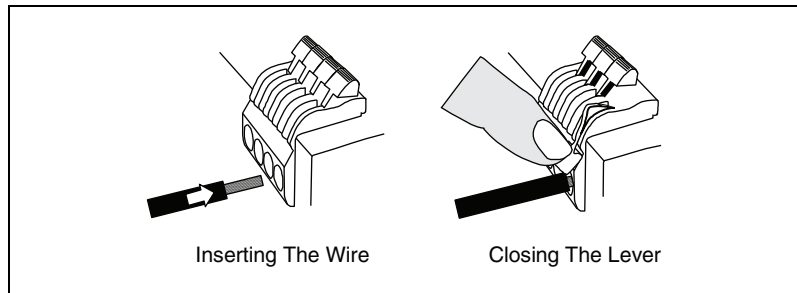

Figure 2-2. Connecting a Wire
3. Ensure that the terminal lever is in an open position as shown in Figure 2-2.
4. Insert the end of the wire into the terminal until the exposed portion of the wire is completely inside of the terminal connection as shown in Figure 2-2. If you are using stranded wire, ensure that all strands of the wire enter the terminal connection.
5. Move the lever until the lever snaps into the closed position, as shown in Figure 2-2.